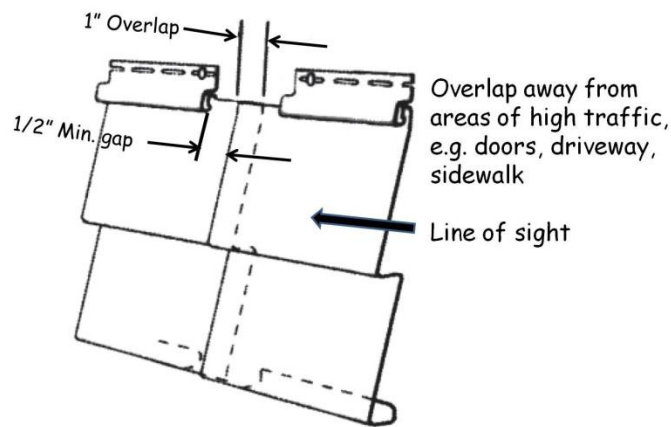

Figure 11-6. Siding Overlap.
2. Install siding with a 1" overlap between pieces and a minimum of ½" space between the top lock of the underlapping piece and the end of the overlapping piece (see Figure 11-6). Maintain a ¼" gap (⅜" when temperatures are below 40° F) at the corners (to allow for expansion) and ends of pieces, including corner posts, J-channel, J-blocks, windows, etc. Overlap the siding pieces such that in high traffic areas one cannot see into the overlapped joint.